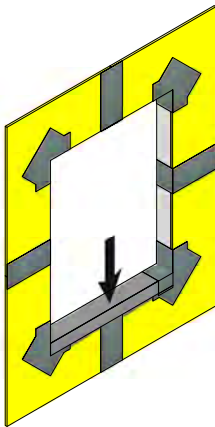

Figure 11
8. Cut SHEATHING FABRIC to desired size. Place the SHEATHING FABRIC into the wet SENERSHIELD-R OR SENERSHIELD-VB. Lap mesh 63.5 mm (2 1/2") minimum at intersections. (See Figure 11)
9. Apply additional SENERSHIELD-R or SENERSHIELD-VB onto the SHEATHING FABRIC to embed. If necessary, apply a second coat. (See Figure 11)